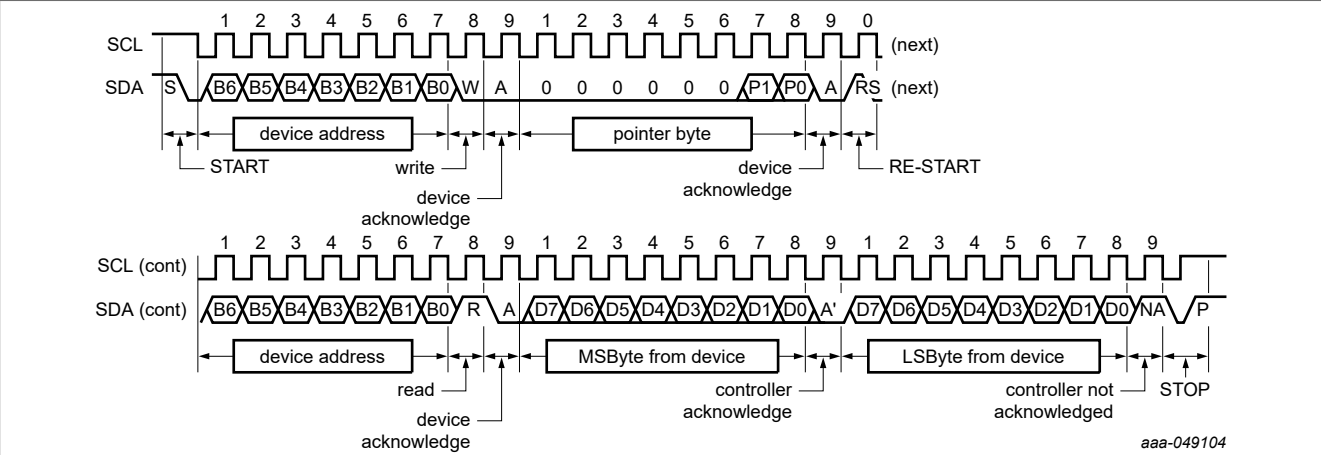

Figure 19. Read register including pointer byte (2-byte data)
- 14. For best temperature accuracy both temperature bytes should be read as shown in Figure 19 and Figure 20 but for a quick less accurate check/reduce bus transmission then only one byte, the MSByte, needs to be read as shown in Figure 20.